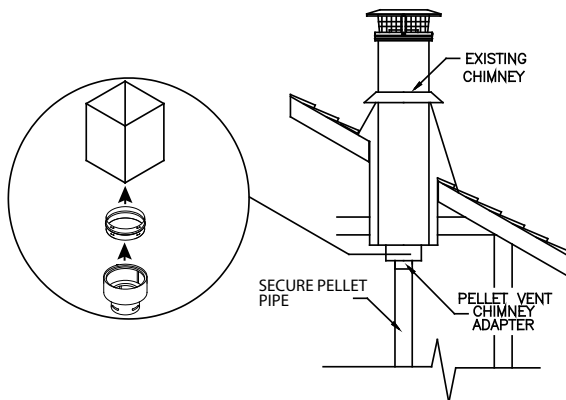

Figure 17
6. If it is desired to attach to an existing 6"-8" factory built chimney, either roof supported or ceiling supported (**Figure 17**):